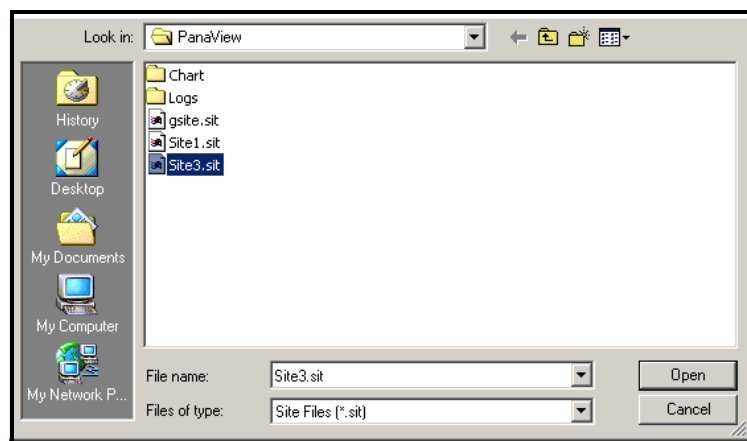

Figure C-18: Site File Selection
2. Then click on the [Save Site to Meter] button. A screen opens similar to Figure C-18 below.
3. The *Site File Selection* window (Figure C-18 on the previous page) opens. Highlight a site file with the desired settings, and click [Open]. The site file becomes the *Working* site in the meter with the desired settings.
2. Click [Save Site to PC]. A window opens similar to Figure C-18 on the previous page.
1. Highlight the site in the left pane. (See Figure C-18 on page C-48.)
3. The *Site File Selection* window (shown in Figure C-18 on page C-48) opens. Enter the desired site name (now with a .prt suffix) and click on [Save]. PanaView displays a text version of the site, as shown in Figure C-20 below.